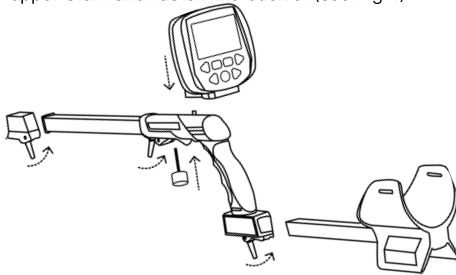

Fig.4
3. Open the buckle on the upper stem. insert the middle stem into the upper stem. Adjust the length that the middle stem inserts to the upper stem and fasten the buckle. (see Fig.4)